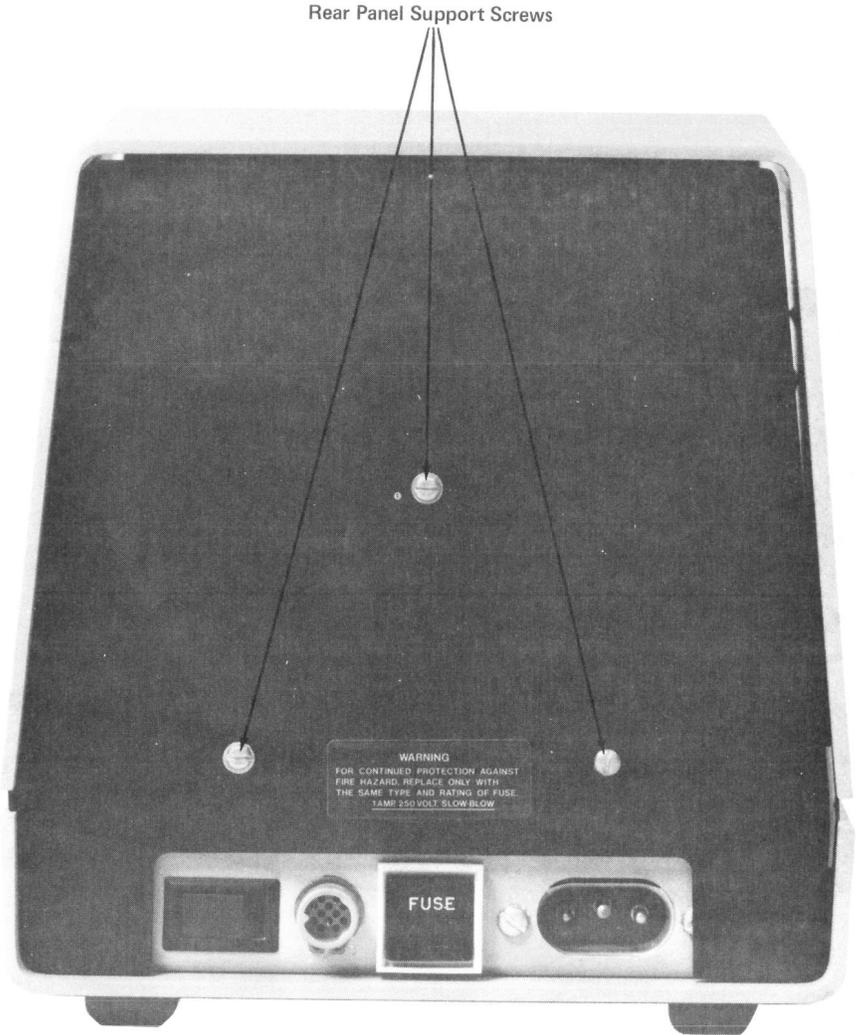

Figure 20, Terminal Rear View
- e) If the terminal has a metal case, remove the three #4-40 screws from the back. (See Figure 20)
- e) If the terminal has a metal case, attach the back panel to the chassis with three #4-40 screws. (See Figure 20)